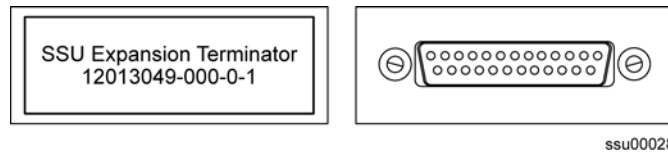

Figure 2-13. SSU-2000e Expansion Terminator
4. If you are not connecting additional Expansion shelves, verify that the Bus Termination Assembly is inserted into the last SDU Interface (J105) and last SDU Backup Clock (J106) of the main SDU-2000e shelf, see Figure 2-13.
The SDU-2000e Expansion Chassis has interface connections on the front panel for connecting to an SSU-2000e Synchronous Supply Unit. Connections include the SDU Interface (J103 and J105) and the SDU Backup Clock Terminal (J104 and J106). Figure 2-13 shows SDU-2000e expansion unit cabling.
Connection to the SSU-2000e is made through the SDU Interface Connectors. The SDU Interface Connections, J103 and J105, are 25 Pin D-Type female connectors with locking posts. The signals are differential pairs and connected in parallel. One connector is used to connect to a source unit, and the other is used for either a terminator or for feeding an additional SDU-2000e shelf. Up to four SDU-2000e shelves can be daisy-chained together. See Figure 2-13 for expansion unit cabling.
Figure 2-13 shows an SSU-2000e Expansion Terminator (part number 12013049-000-0). Install this terminator to the last expansion chassis in the daisy chain.